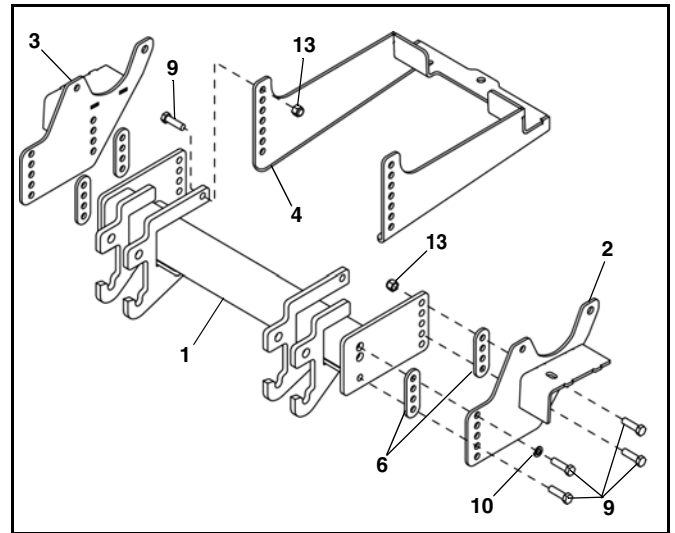

Figure 3
11. Attach item #1 to item #2 & #3, using (8) of item #9, (4) of item #6, (2) of item #10, and (6) of item #13. (See Figure 3.)
12. Secure item #1 to item #4 using (4) of item #9 and (4) of item #13.